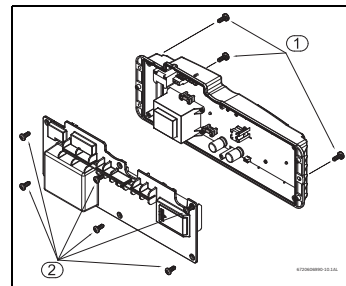

Fig. 7
the electronic board (PCB) (Fig. 7, pos.2).
- ▶ Remove the three screws from the control unit (Fig. 7, pos.1).